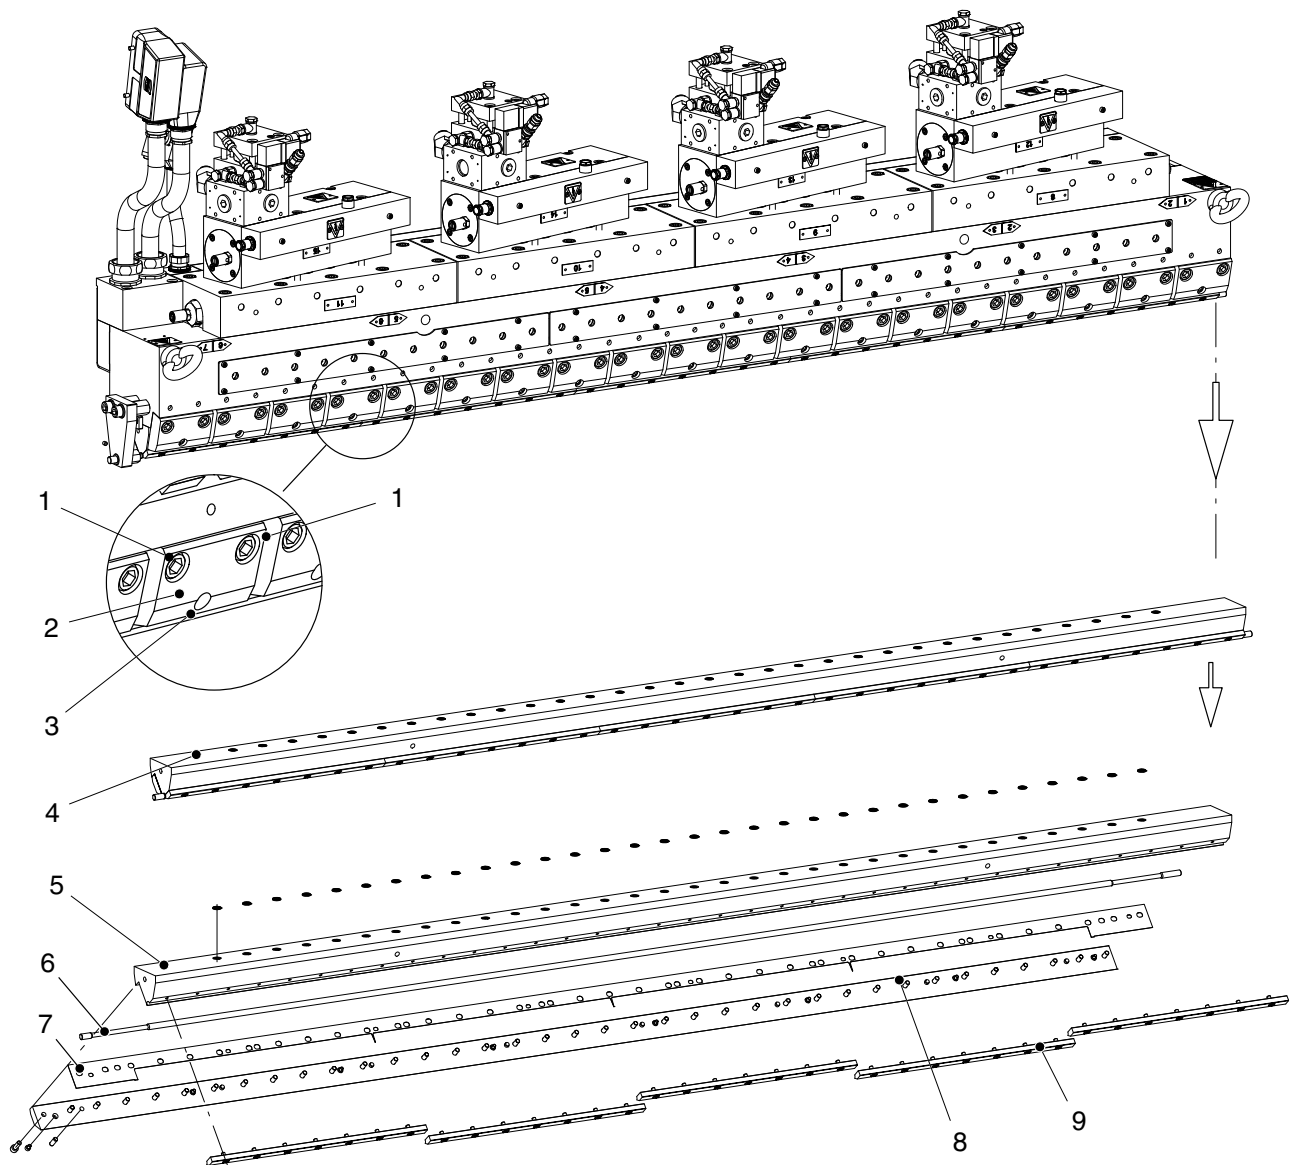

Fig. 5-3 Example of an applicator with rotating bar exchangeable nozzle, shown without rotating bar motor
2. Switch off the rotating bar motor (6 , Fig. 5-3) and detach the rotating bar from the motor. Refer to page 5-10 *Replacing Rotating Bar*.
3. Remove all clamping screws (3 , Fig. 5-3). Now the nozzle can be extracted out the side. If there is not enough space to the side of the applicator: Unscrew all of the clamps (2 , Fig. 5-3) and extract the nozzle out the front of the unit.
6. Unscrew the bars (9 , Fig. 5-3). Ensure that the bars are not mixed up when reinstalling at a later time.
7. Reduce the nozzle to the individual components: mouthpiece receptacle (5 , Fig. 5-3), mouthpiece (8 , Fig. 5-3) and shim plate (6 , Fig. 5-3).